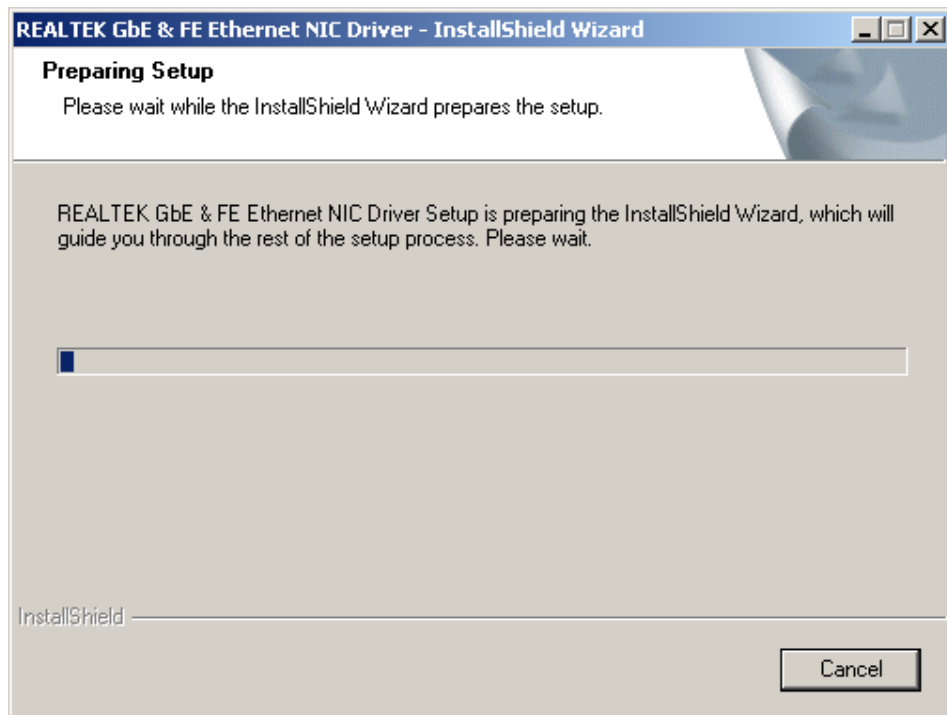

Figure 6-11: Realtek LAN Driver InstallShield Wizard
Step 1: Insert the CD into the system that contains the POS-8520. Open the **X:\Intel 852\3-LAN\Realtek** directory (where **X:** is the system CD drive) and double-click the **setup.exe** installation file to initiate the **InstallShield Wizard** (Figure 6-11).